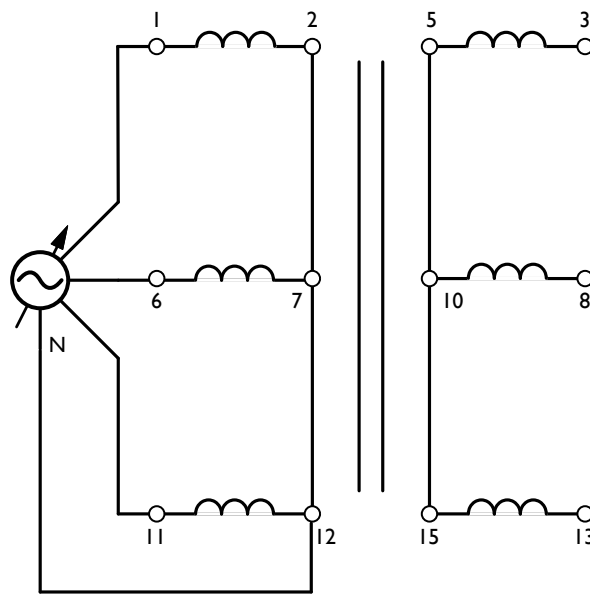

Figure 2.3: Three-Phase Transformer Connected in Wye-Wye
- 11. With the power off, connect all three transformers together in the three-phase **Y - Y** configuration shown in Figure 2.3. **Have your circuit checked before turning on the power.**